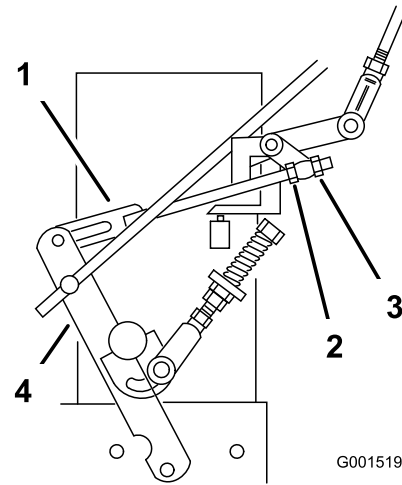

Figure 39
- Loosen the front adjusting nut on left hydro control linkage as shown in Figure 39.
- Turn the left rear adjusting nut counterclockwise until the wheel rotates forward (Figure 39).
- Turn the rear adjusting nut clockwise 1/4 of a turn at a time. Then move the speed-control lever forward and back to neutral. Repeat this until the left wheel stops rotating forward (Figure 39).